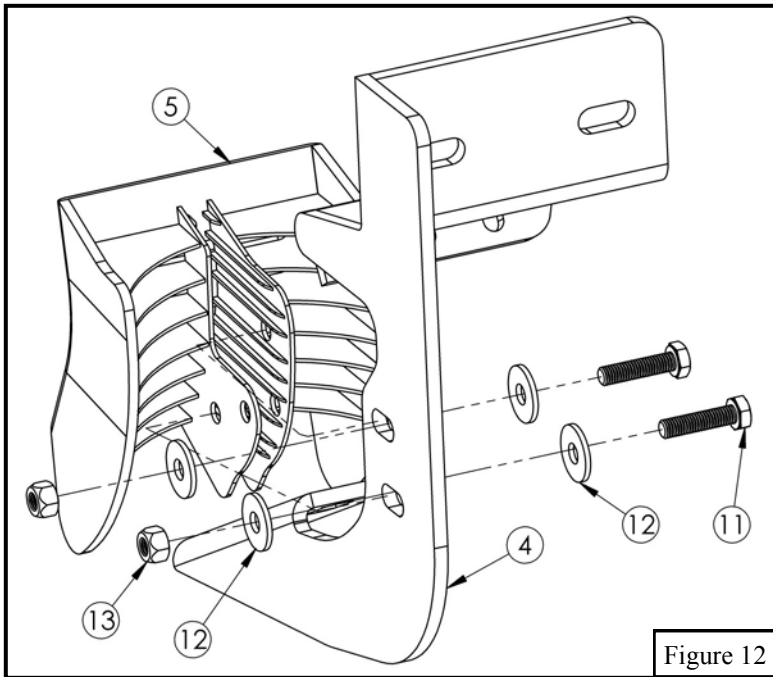

Figure 12
11. Locate (1) plastic bracket cover (Item 5) and loosely secure it to the (6) brackets using the provided hardware: (2) M6 hex head bolts, (4) large M6 flat washers, and (2) M6 nylon lock nuts (Items 11-13). Repeat for every bracket. **See Figure 12.**